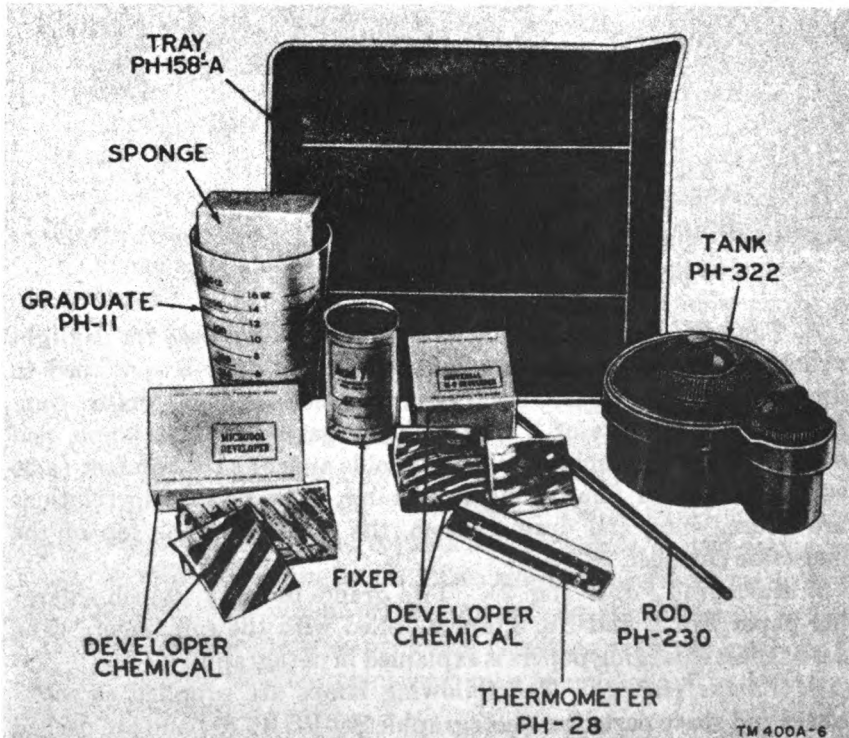

Figure 6. Miscellaneous processing accessories.
- (1) Six packages, containing two units each, of fine grain developer (fig. 6) used for fine-grain development.
- (2) Three packages, containing six units each, of Universal M-Q developer.
- (3) Six containers of single powder hardener and fixer.
- (4) Graduate PH-11, a 16-ounce, beaker-shaped glass graduate used for measuring purposes when processing solutions are prepared.
- (5) Rod PH-230, a 10-inch long, hard-rubber stirring rod. Two rods are used for mixing the processing solutions.
- (6) Three hard-rubber photographic trays (Tray 158-A) used to hold the print processing solutions.
- (7) Thermometer PH-28, a tank and tray thermometer mounted on a metal back. It has a range of 20° to 120° F. It is used for testing temperatures of processing solutions.